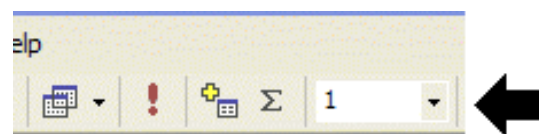

Figure 244. Set Top Values List to “1”.
- You want only one set of records, so set the **Top Values** droplist to “1” as shown in Fig. 244.